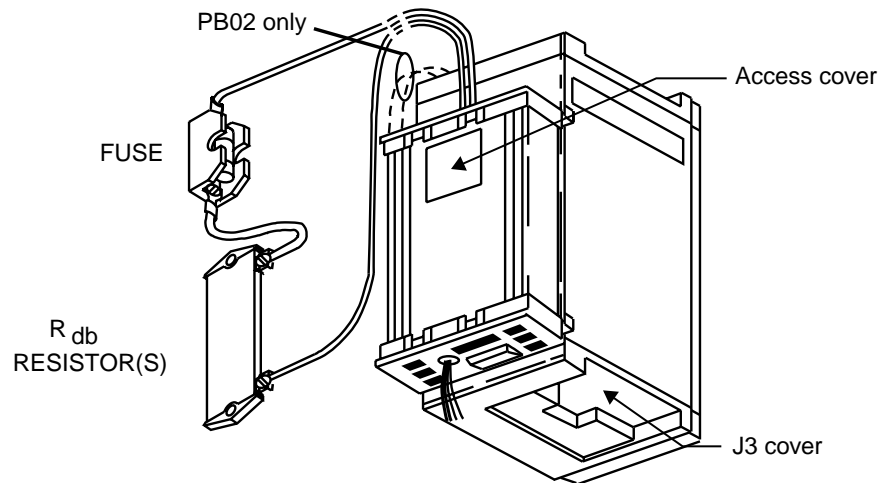

Figure 5-7 Installing the Dynamic Braking Module
2. Remove plastic access cover on the side of the dynamic braking module. Removing this cover exposes the resistor connection terminals of the module (see Figure 5-7).